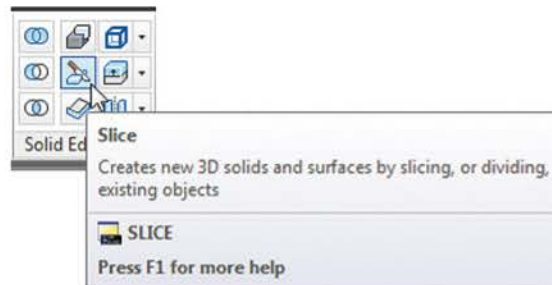

Fig. 11.22 The Slice tool icon from the Home/Solid Editing panel
3. Call the **Slice** tool from the **Home/Solid Editing** panel (Fig. 11.22).